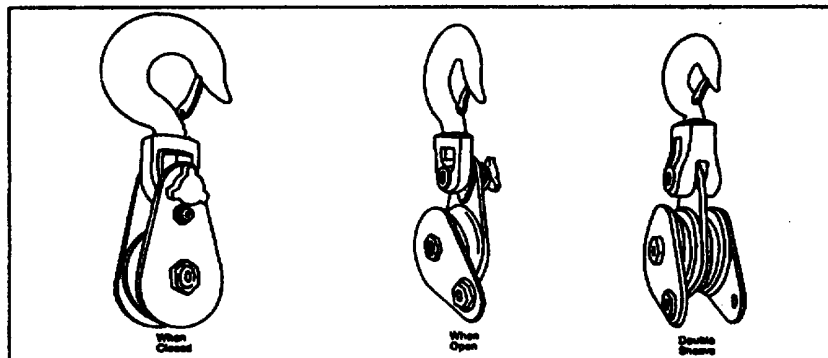

Fig. 2-20 Snatch block
3. Type of Blocks. Blocks most commonly used on tenders are wooden or metal, snatch, single, and double blocks. Snatch blocks are one of the most useful types of blocks found on board a vessel since they can be easily moved. This block may be employed conveniently as a lead block since it is fitted with a hinged shell so a line may be easily snatched on a bight. In using this block, take care to see that the block is properly secured to prevent its opening at the wrong time. **Figure 2-20** is a picture of a snatch block.